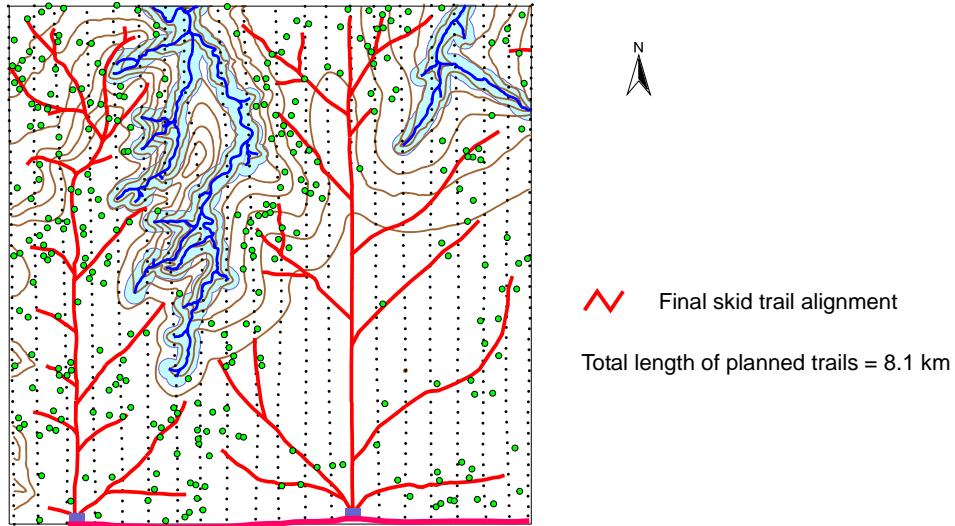

Figure 40 Final skid trail alignment
- Indicate the adjustments on the map (Figure 40).